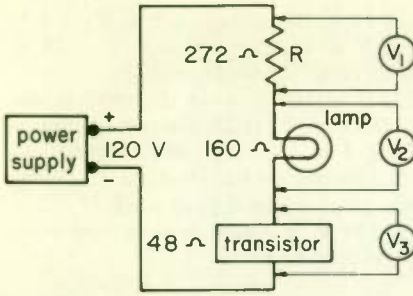

Fig. 34
8. In Fig. 34 voltmeter V_1 reads (a) 68 volts, voltmeter V_2 reads (b) 40 volts, and voltmeter V_3 reads (c) 12 volts.
9. Add the voltmeter readings in Fig. 34. Is the sum equal to the supply voltage? yes.
10. The lamp in Fig. 34 will burn at proper brilliancy if it is manufactured to be used on 40 volts.